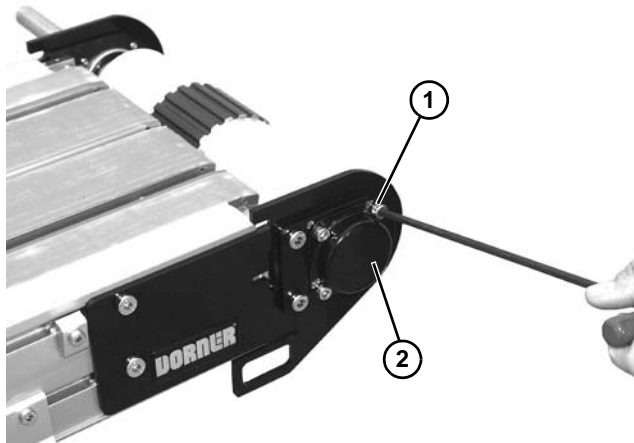

Figure 36
2. Remove four shaft cover screws (**Figure 36, item 1**). Remove the shaft cover (**Figure 36, item 2**).